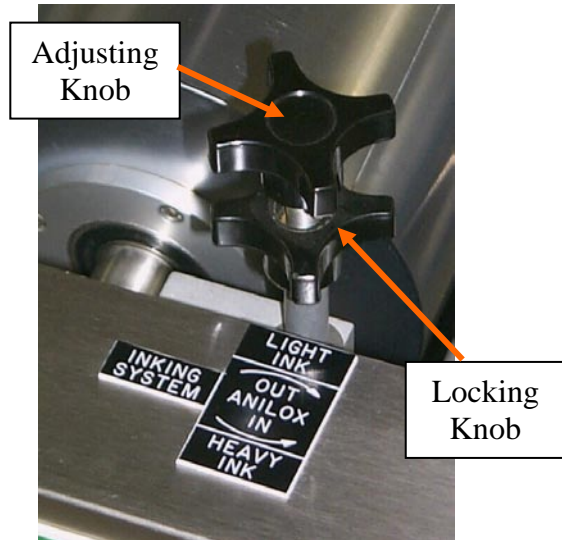

Figure E2: Stop Adjustment
2. Check Anilox Roll stop position setting to verify that there is “kiss contact” between the roll and the printing plate (Figure E2).
1. Move Anilox Roll stop adjustment knobs clockwise until image is lost. Then, slowly and evenly turn the knobs counter-clockwise until optimal image is achieved (See Figure E2).